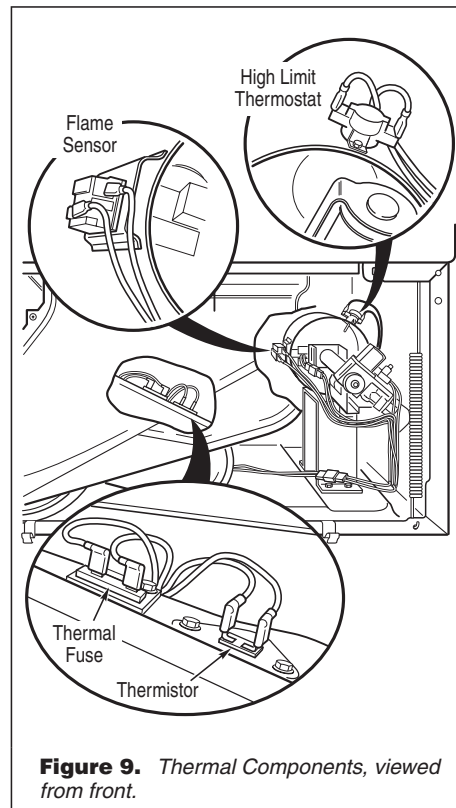

Figure 9. Thermal Components, viewed from front.
2. Remove the toe panel to access the thermal components. See figure 13, page 7. Locate the components using figure 9.
4. Locate the high limit thermostat. See figure 9. Measure the continuity through it by connecting the meter probes on the red wire and blue wire.
- Check wire connections at the machine control electronics and thermistor. See Accessing & Removing the Electronic Assemblies, page 7, and figure 9 for thermistor location.
- If wire connections are good, remove the two wires from the thermistor and replace the thermistor. See figure 9.
2. Access the thermal fuse by first removing the toe panel. See Removing the Toe Panel, page 7, and figure 9, page 4, for thermal fuse location.